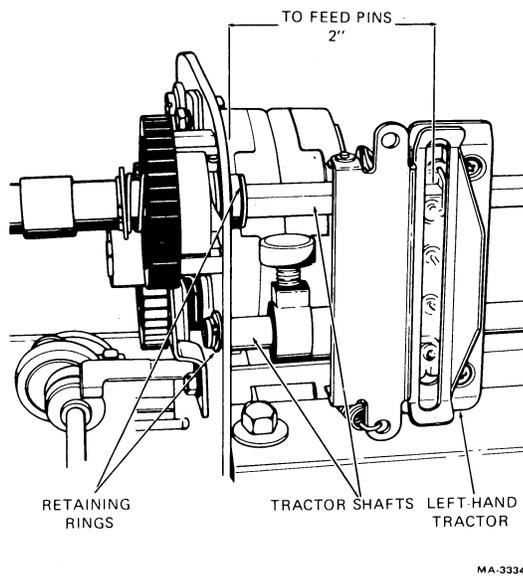

Fig. 13-Tractor Assemblies Removal and Installation
- (c) Remove the two retaining rings (Figure 13) on the left-hand side of the tractor support shaft and drive shaft.
- (d) Position the tractor shafts in the side plates and secure them with three retaining rings (Figure 13).
- (f) Slide the left-hand tractor to the left so that the feed pins are 2 inches from the left-hand side plate (Figure 13).